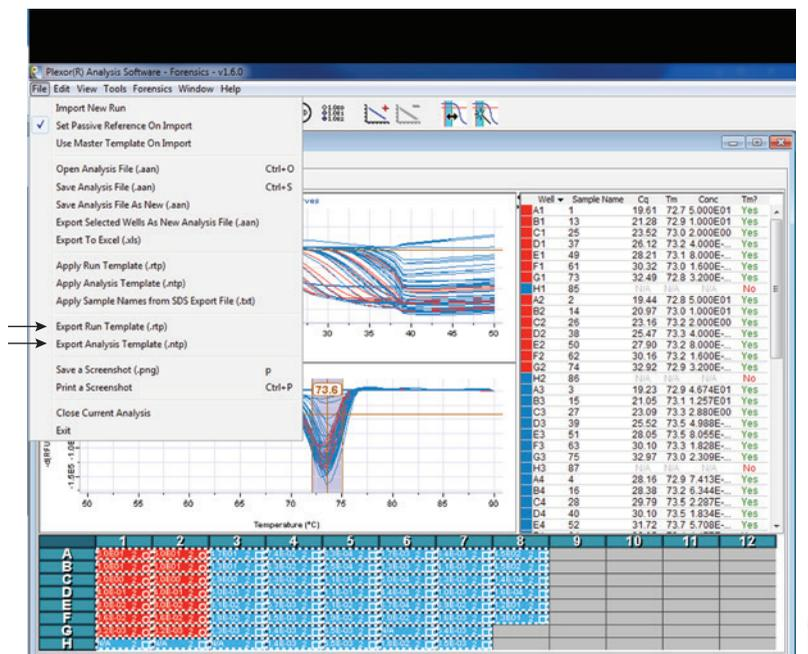

Figure 54. The Plexor® Analysis Software File menu. Check “Export Run Template (.rtp)” and “Export Analysis Template (.ntp)”.
10. In the File menu select "Export Run Template" to save the run template as Chosen Run template.rtp (Figure 54).
11. In the File menu select "Export Analysis Template" to save the analysis template as Chosen Analysis template.ntp (Figure 54).